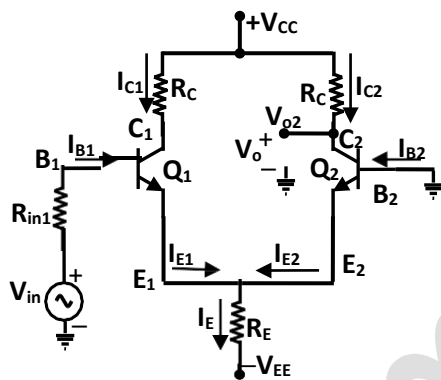

Figure 3.10: Single Input Unbalance Output
B) Single Input Unbalance Output Differential Amplifier: In this amplifier shown in figure 3.10, input is applied to one of the base of transistor, say Q_1 and base of Q_2 is grounded. The output is measured at either collector with respect to ground, say output is measured at collector of Q_2 with respect to ground.